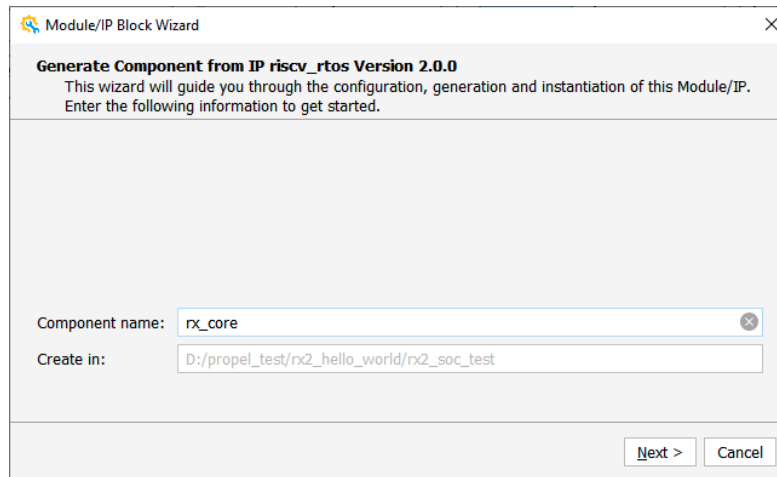

Figure 3.1. Entering Component Name
2. Enter the component name, as shown in Figure 3.1. Click **Next**.